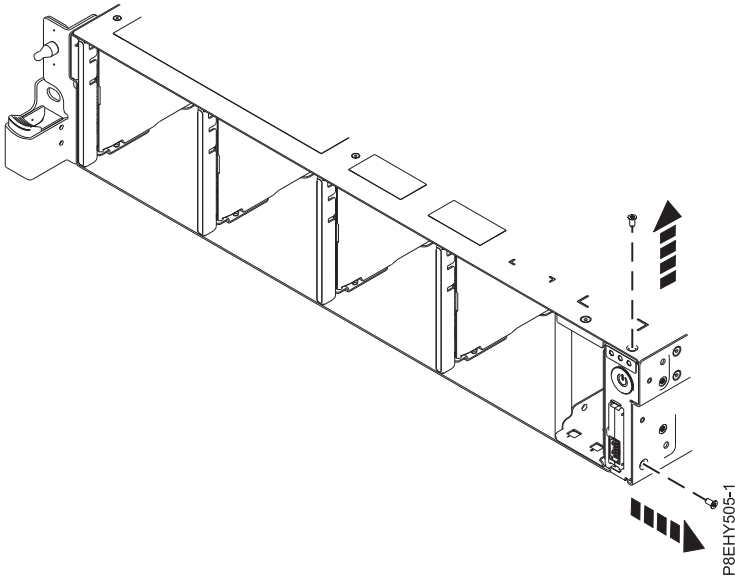

Figure 67. Remove the top and side screws
8. Remove the top and side screws from the power switch. See Figure 67 on page 56.